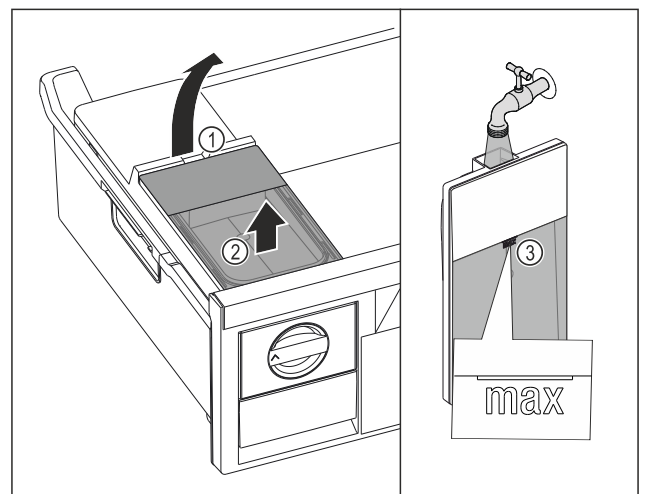

Fig. 75
- ▶ Lift the water tank at the recess Fig. 75 (1).
- ▶ Remove the water tank by lifting it upwards. Fig. 75 (2)
- ▶ Fill the water tank with drinking water up to the mark Fig. 75 (3).